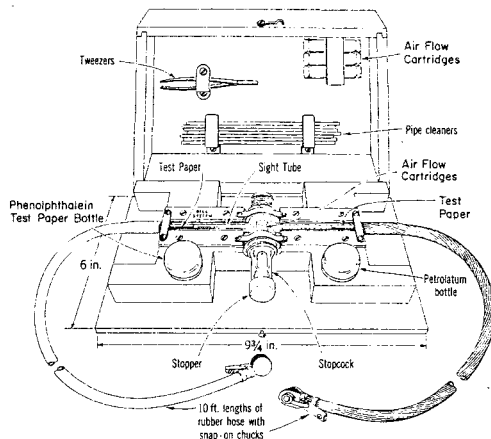

Fig. 1—Airflow Indicator
2.01 The AT-6723 airflow indicator (Fig. 1) consists essentially of a clear pyrex glass valve containing a cartridge chamber capped with a rubber stopper and two sight tubes.